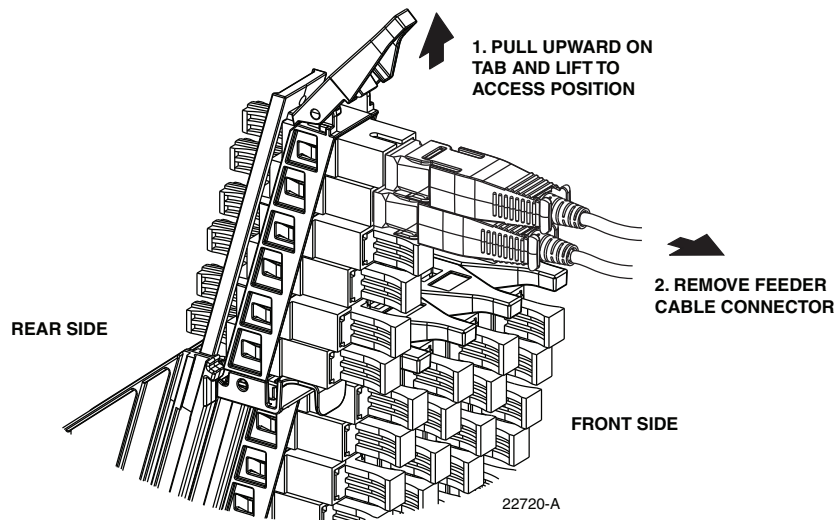

Figure 17. Adapter Pack Raised to Access Position
3. Pull upward on the small tab on top of the adapter pack and lift the adapter pack to the access position as shown in Figure 17.